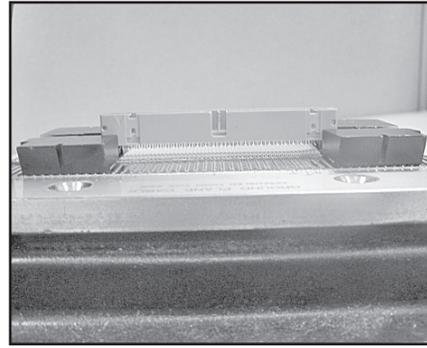

Figure 7
- 4.3 Place the cable/cover sub-assembly between the guides on the locator plate, cover side down. (Figure 7).
- 4.4 Position and orient connector body, contacts down, over the cable/cover sub-assembly, aligning cover with the body slots. (Figure 7).